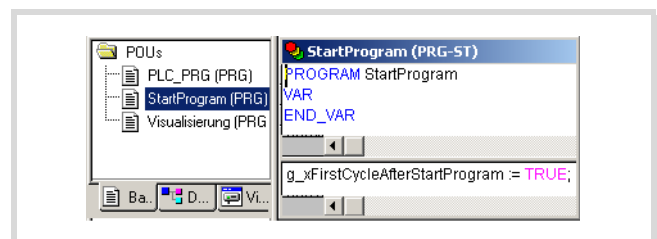

Figure 92: Creating the "startprogram"
- Write the program "StartProgram" as in → figure 92.